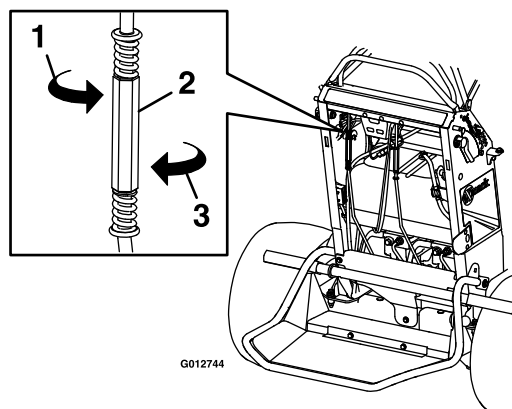

Figure 33
8. Adjust the turnbuckle on the LH side (as viewed from the rear of the machine — see Figure 33) until the left control has approximately the same natural neutral position as the right. If more adjustment is needed, contact an Authorized Service Dealer. Final adjustment of the left side is done in the tracking adjustment section.
5. Rotate the turnbuckle on the LH side of the machine (as viewed from the rear of the machine — see Figure 33).